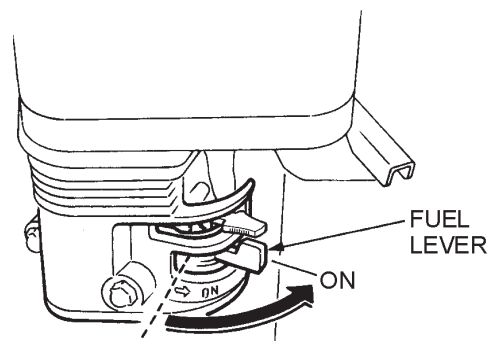

Figure 15. Engine Fuel Valve Lever
1. Place the engine fuel valve lever (Figure 15) to the “ON” position.